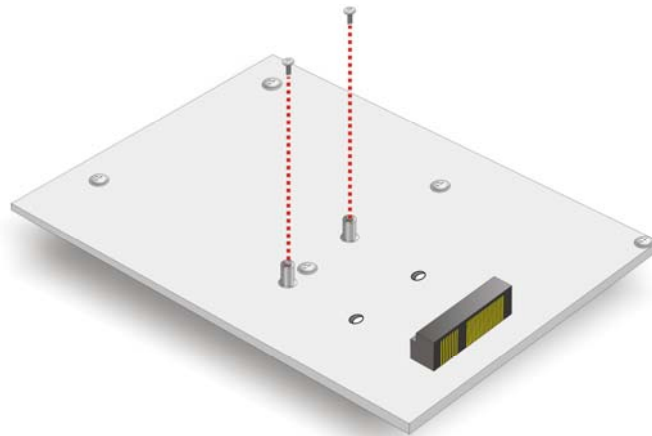

Figure 4-14: Remove the Retention Screws for the Full-size PCIe Mini Card
- Step 2:** **Remove the retention screws.** Remove the retention screws secured on the motherboard as shown in **Figure 4-14**.